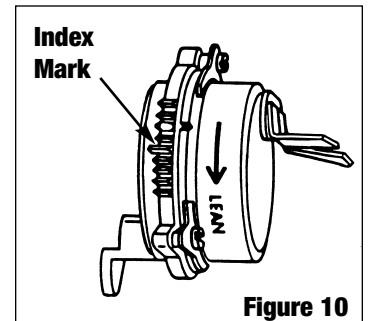

Figure 10
- **ELECTRIC CHOKE SETTING (FIG. 10)**